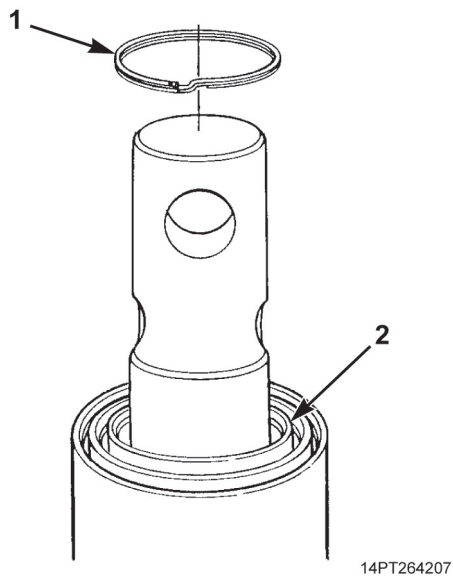

Figure 3. Spiral Retaining Ring Removal.
4. Remove spiral retaining ring (Figure 3, Item 1) from sleeve (Figure 3, Item 2). Discard spiral retaining ring.